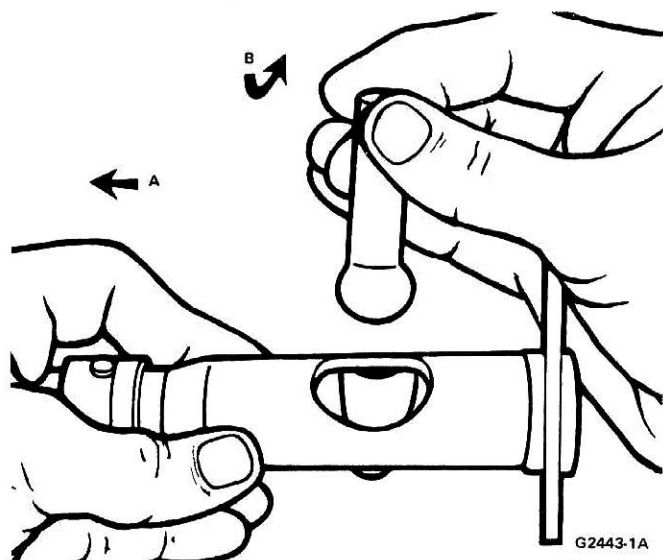

FIG. 13 Removing Ball Stud
14. Slide the ball stud toward the clamp end as far as possible to move the ball stud socket to that end of the valve sleeve (Fig. 13, Step A). Remove the ball stud by moving it toward the housing end and pulling it straight out (Fig. 13, Step B). Remove the ball stud socket, the bumper, the bumper spring, and the two ball stud seats.